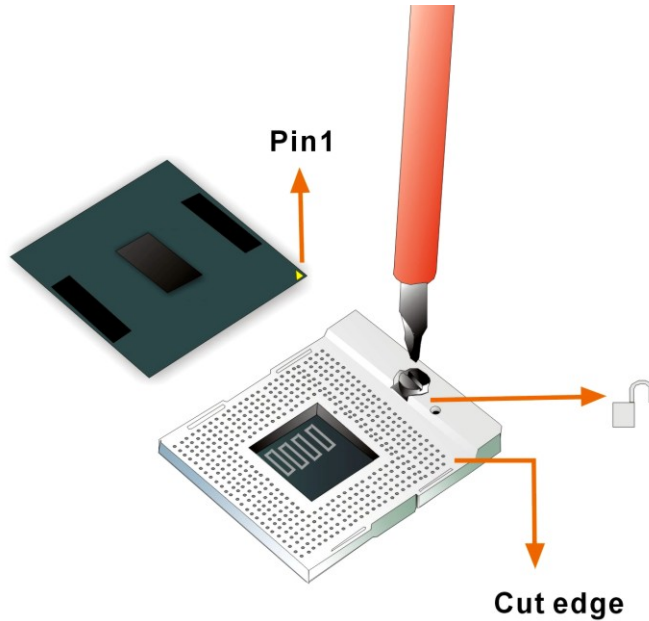

Figure 5-1: Make sure the CPU socket retention screw is unlocked
Step 1: Unlock the CPU retention screw. When shipped, the retention screw of the CPU socket should be in the unlocked position. If it is not in the unlocked position, use a screwdriver to unlock the screw. See **Figure 5-1**.
- Step 4:** **Correctly position the CPU.** Match the Pin 1 mark with the cut edge on the CPU socket. See **Figure 5-1**.